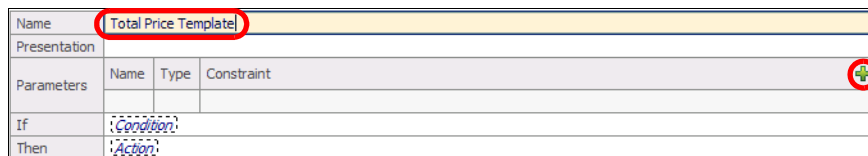

Figure 10-24 Business rule template
- ▶ In the Templates section, click the *Add If then Template* icon . A template is added. Change the name to Total Price Template (Figure 10-24).